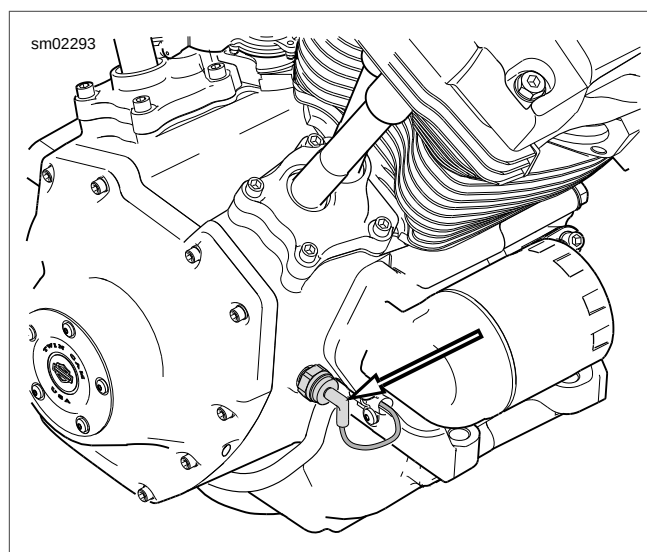

Figure 3-13. Oil Pressure Switch
2. See Figure 3-13. Remove oil pressure switch from crankcase. See 7.30 OIL PRESSURE SWITCH.